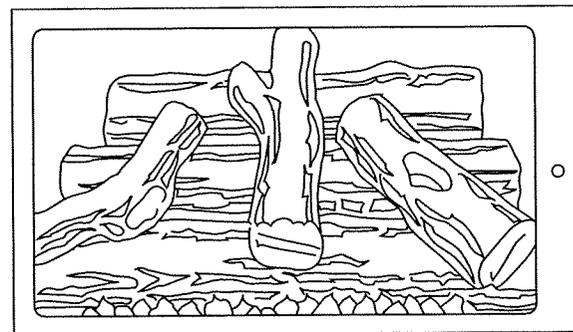

Figure 21
Position the (3) top logs on the bottom logs making sure the pins on the bottom logs fit into the holes on the underside of the top logs. See Figure 21.